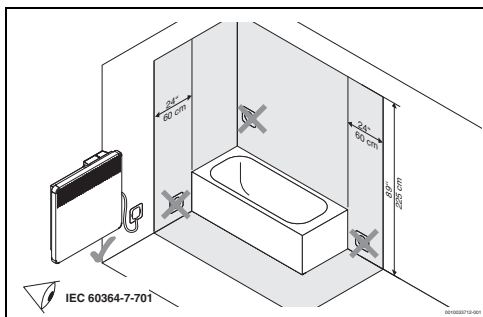

Fig. 3
The convector must only be set up or mounted outside the safety zone (shown in grey → Fig. 3, page 37).
- The convector must only be set up or mounted outside the safety zone (shown in grey → Fig. 3, page 37).